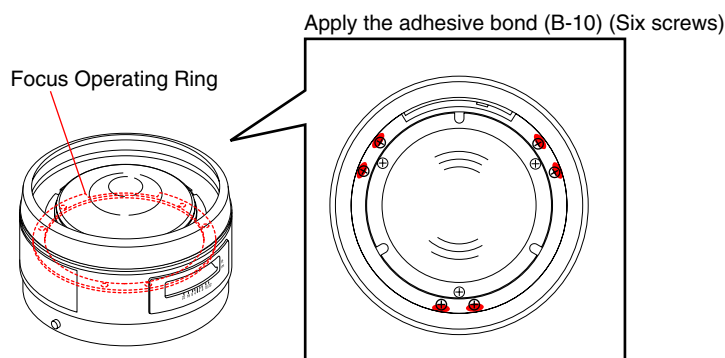

Fig.4-4-8
- 8) After the adjustment is completed, apply the adhesive bond (B-10) to the position shown in the Fig.4-4-8.